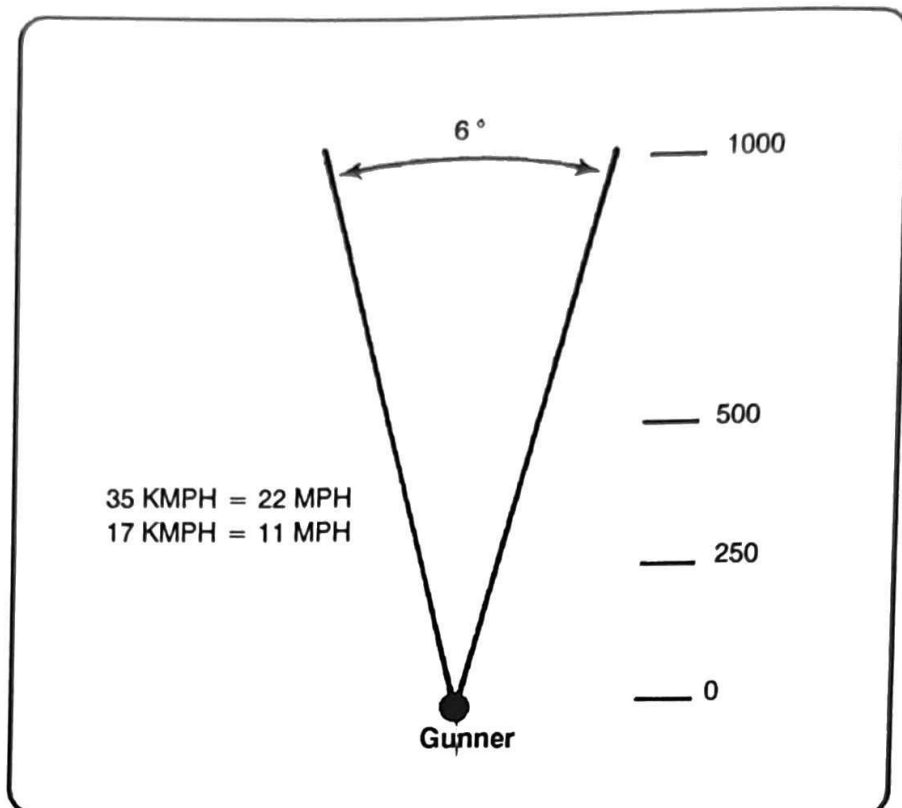

Figure 7-14. Tracker FOV versus simulated speed of target.
e. The speed of the target vehicle is important when simulating target ranges (Figure 7-14). The tracker is designed so that a gunner can track a 35-kmph (22 mph) moving target across a 6-degree field of view.